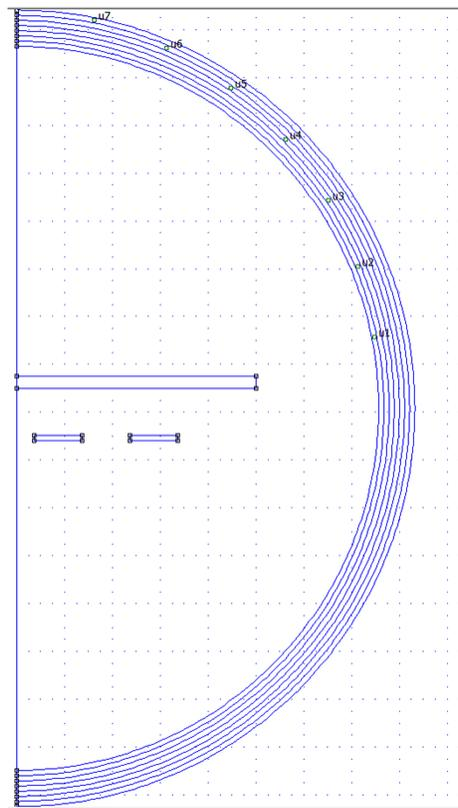
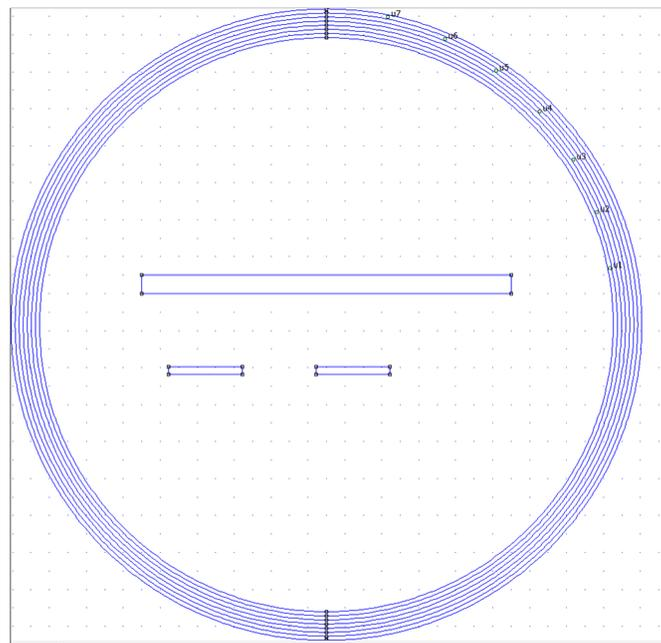

Figure 2-6. Axisymmetric Problem With Boundaries
Figure 2-7. Planar Problem With Boundaries
- d. The workspace should now look similar to Figure 2-6 for axisymmetric problems or similar to Figure 2-7 for planar problems: